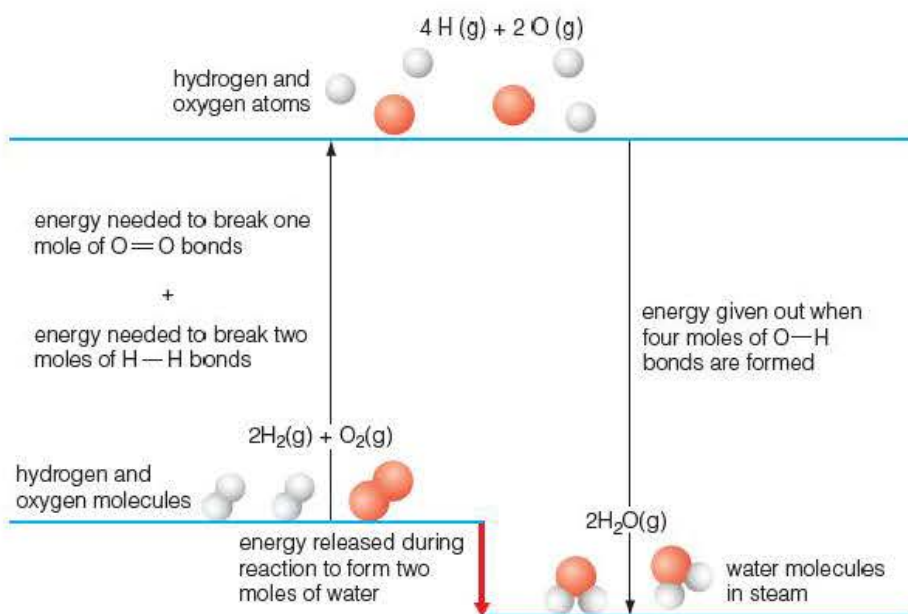

Figure 2.18 ◀
Bonds in the H_2 and O_2 molecules first break to form H and O atoms (Figure 2.18). New bonds then form between the H and O atoms to produce water, H_2O .
When hydrogen and oxygen react, more energy is released in making four new O–H bonds in the two H_2O molecules than in breaking the bonds in two H_2 molecules and one O_2 molecule, so the overall reaction is exothermic (Figure 2.18).
- 13 a) Look back at Figure 2.18 and write out the equation $2\text{H}_2(\text{g}) + \text{O}_2(\text{g}) \rightarrow 2\text{H}_2\text{O}(\text{g})$ showing all the bonds between atoms in the molecules.
- b) Draw an energy level diagram for the reaction (similar to Figure 2.18).